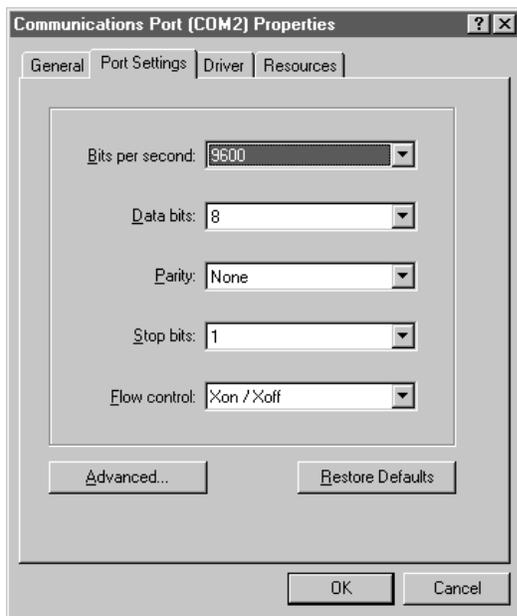

Figure 8-5: COM Port Properties Dialog Box
12. This should bring up the dialog shown in Figure 8-5.